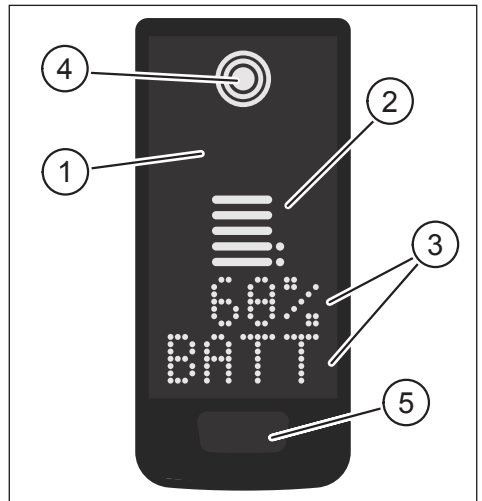
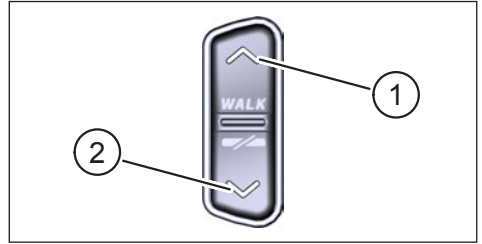

Fig. 1: Operation and indicator components on Display
Fig. 2: Operation on the Remote
### Pos. in Fig. 1 Description
Pos. in Fig. 2	Description
- ▶ Press and hold the button on the Display (pos. 5 in Fig. 1) and the DOWN button on the Remote (pos. 2 in Fig. 2) for at least 5 seconds.
- ▶ With a **double click** press on the button on the Display (pos. 5 in Fig. 1) you switch to the next screen view.
- Press the DOWN button on the Remote control (pos. 2 in Fig. 2).